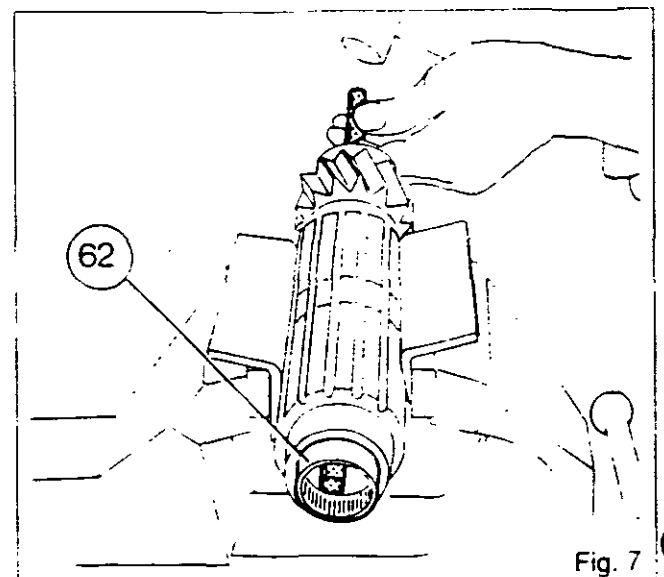

Fig. 7
15. a) Take off the 1st speed gear (60) and the 2nd speed gear (59).
b) Take off the 1st speed gear (60), shims [58], and the 2nd speed gear (59).
16. a) Remove circlips (58) and (57).
b) Remove spacer (57).
- 4th speed (56) (4 x 2 gearbox)
- 3rd speed (55) (4 x 2 gearbox)
- 3rd speed (56) (4 x 4 gearbox)
- 4th speed (55) (4 x 4 gearbox)
19. Drive out needle-roller bearing (62) (Fig.7) and discard it.